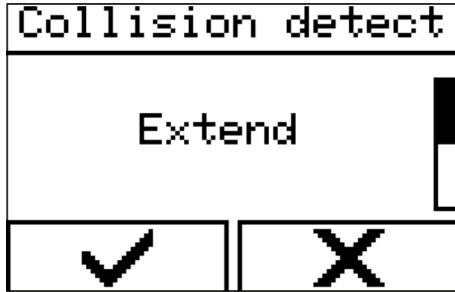

Fig. 111: Selecting the direction of travel
4. → Select the direction of travel 'Extend' or 'Retract' (in this case: 'Retract', Fig. 111).